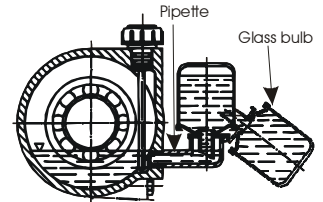

Fig.3: Oiler
- Turn over the glass bulb and pour oil into the pipette until it reaches the level as indicated in the *fig. 3*: fill the glass bulb and put it into the vertical position. Check that the level of the glass bulb remains constant. The types of oil indicated in *tab.1* are valid for temperatures between -10° and 120°C.